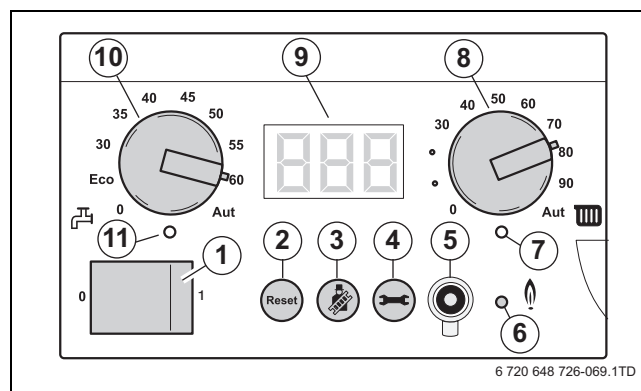

Fig. 69 BC10 basic controller
The “Burner” (On/Off) LED (→ fig. 69, [6]) lights up when the burner of the boiler is active and it is extinguished when the burner is switched off.
The “Heat demand” LED (→ fig. 69, [7]) lights up when the control system has made a heat demand and it is extinguished when this heat demand is no longer required.
The maximum CH (boiler) flow temperature (→ fig. 69, [8]) is used to set the upper CH (boiler) flow temperature limit. The unit is °C.
The heating system display values, display settings and display codes can be read out from the display (→ fig. 69, [9]). If a fault occurs the display will immediately show the accompanying fault code. The fault code display will flash if a locking fault is detected.
The “DHW mode” LED (→ fig. 69, [10]) lights up when a DHW request has occurred and it is extinguished when this DHW request is no longer required.
The DHW temperature dial (→ fig. 69, [11]) is used to select the required temperature of the hot water in the hot water cylinder. The unit is °C (→ table 18, page 44).
You can navigate through the menu structure of the boiler on the BC10 using the “Reset” button, the “Chimney sweep” button, the “Service button” (→ fig. 69, items 2, 3 and 4) and the display (→ fig. 69, [9]) using table 9 to table 13.